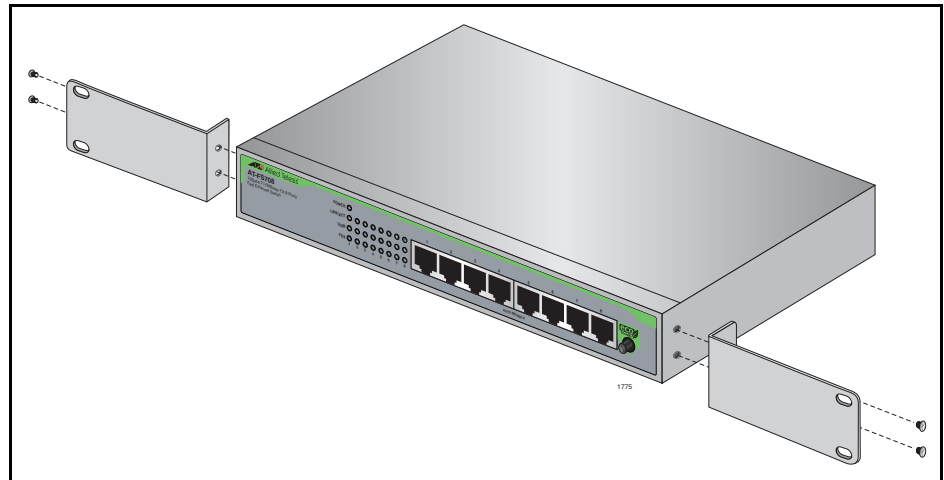

Figure 6. Attaching Brackets for Rack Mounting
2. Attach the two mounting brackets (provided) to the sides of the switch using the bracket mounting screws (provided), as shown in Figure 6.